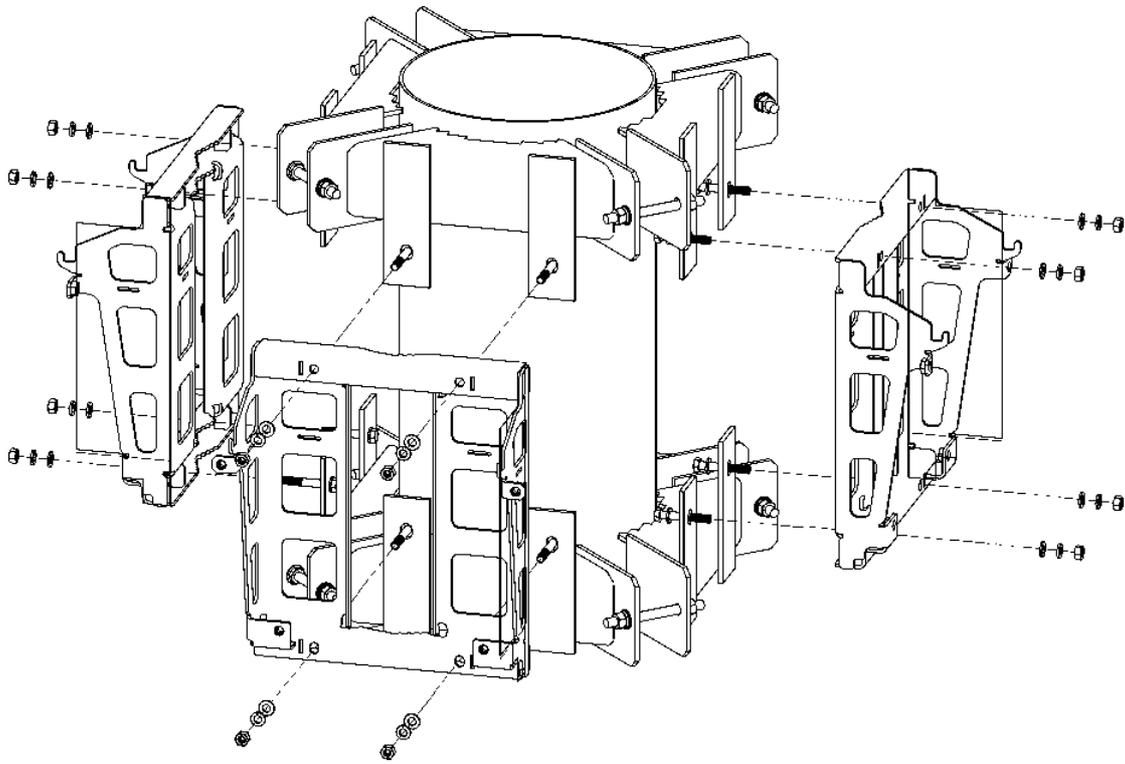

Figure 2-12: Mounting Three Carriages on the Pole
- 3** Attach the carriage to the bracket and tighten using the supplied washers, spring washers and nuts (Figure 2-12). Repeat for the other carriages.